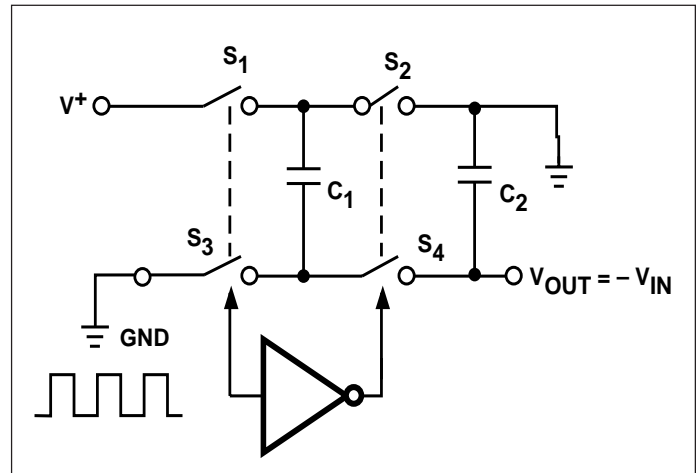
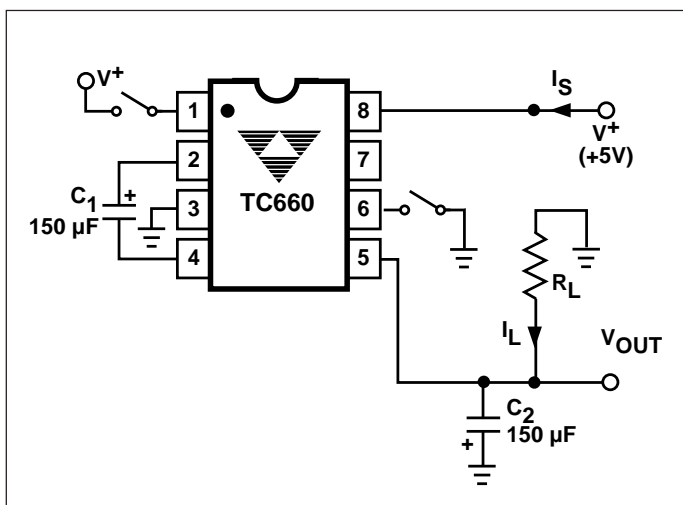

Figure 2. Idealized Switched Capacitor
Figure 1. TC660 Test Circuit (Inverter)
**ELECTRICAL CHARACTERISTICS:** Specifications Measured Over Operating Temperature Range With,  $V^+ = 5V$ ,  $C_{OSC} = \text{Open}$ ,  $C_1, C_2 = 150\mu F$ ,  $FC = \text{Open}$ , Test Circuit (Figure 1), unless otherwise indicated.
All curves are generated using the test circuit of Figure 1 with  $V^+ = 5V$ ,  $LV = GND$ ,  $FC = open$ , and  $T_A = +25^\circ C$ , unless otherwise noted.
The TC660 contains all the necessary circuitry to complete a voltage inverter (Figure 1), with the exception of two external capacitors, which may be inexpensive 150 $\mu$ F polarized electrolytic capacitors. Operation is best understood by considering Figure 2, which shows an idealized voltage inverter. Capacitor  $C_1$  is charged to a voltage  $V^+$  for the half cycle when switches  $S_1$  and  $S_3$  are closed. (**Note:** Switches  $S_2$  and  $S_4$  are open during this half cycle.) During the second half cycle of operation, switches  $S_2$  and  $S_4$  are closed, with  $S_1$  and  $S_3$  open, thereby shifting capacitor  $C_1$  negatively by  $V^+$  volts. Charge is then transferred from  $C_1$  to  $C_2$ , such that the voltage on  $C_2$  is exactly  $V^+$ , assuming ideal switches and no load on  $C_2$ .
The four switches in Figure 2 are MOS power switches;  $S_1$  is a P-channel device, and  $S_2$ ,  $S_3$  and  $S_4$  are N-channel devices. The main difficulty with this approach is that in integrating the switches, the substrates of  $S_3$  and  $S_4$  must always remain reverse-biased with respect to their sources, but not so much as to degrade their ON resistances. In addition, at circuit start-up, and under output short circuit conditions ( $V_{OUT} = V^+$ ), the output voltage must be sensed and the substrate bias adjusted accordingly. Failure to accomplish this would result in high power losses and possible device latch-up. This problem is eliminated in the TC660 by a logic network which senses the output voltage ( $V_{OUT}$ ) together with the level translators, and switches the substrates of  $S_3$  and  $S_4$  to the correct level to maintain necessary reverse bias.
$V_1$  and  $V_2$  are the voltages on  $C_1$  during the pump and transfer cycles. If the impedances of  $C_1$  and  $C_2$  are relatively high at the pump frequency (refer to Figure 2) compared to the value of  $R_L$ , there will be a substantial difference in voltages  $V_1$  and  $V_2$ . Therefore, it is desirable not only to make  $C_2$  as large as possible to eliminate output voltage ripple, but also to employ a correspondingly large value for  $C_1$  in order to achieve maximum efficiency of operation.